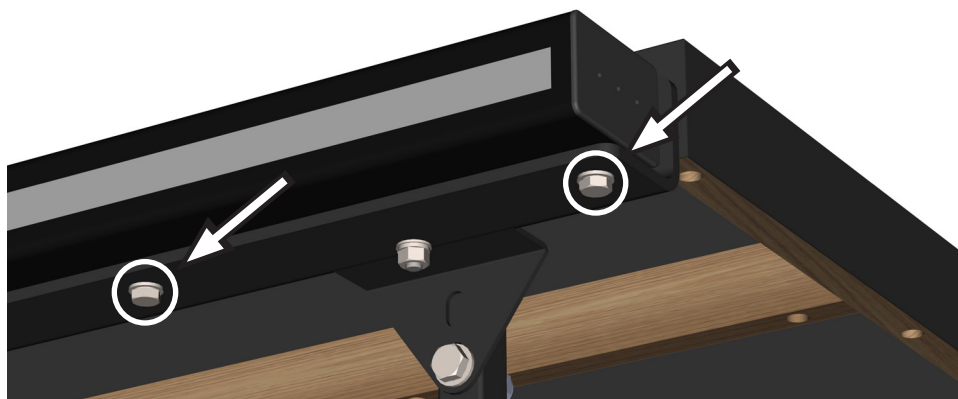

Fig. 12
**Installing the Main Tube:** The main tube is installed on the front rail using the M8 x 16 hex head bolts with attached washers (7). Position the tube on the horizontal portion of the front rail with the rulers facing up and the 12" ruler on the left side. The powder coated surfaces of the tube and rail can be slick, so be careful that the tube does not fall off the rail. Align the holes in the rail with the holes in the bottom of the tube. Thread the M8 x 16 hex head bolts through the rail and into the threaded holes in the bottom of the tube. See Fig. 12. Leave the bolts finger tight.